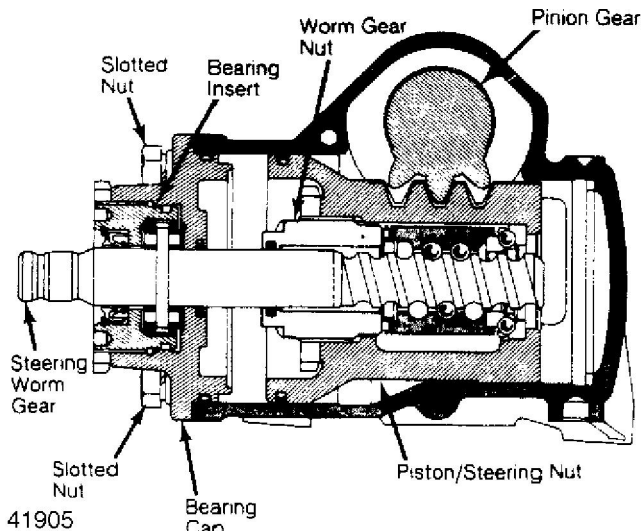

Fig. 4: Cross Sectional View of Steering Gear
10) Remove lock ring, cover and control valve from housing. See Fig. 4. If necessary, remove pistons from control valve by removing lock rings.